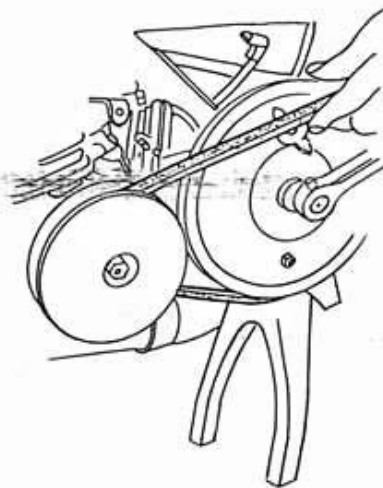

Fig. 2
- Remove the belt from the pulley groove and pass it in front of the pedal (fig. 2).